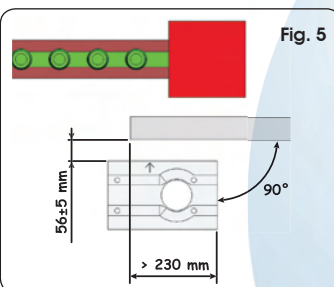
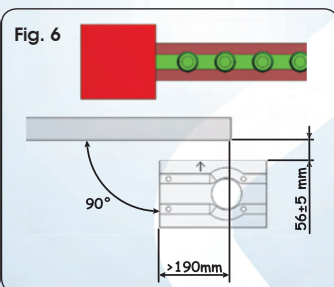

Fig. 5
Fig. 6
2. The foundation plate must be located as shown in Fig. 5 (right closing) or Fig. 6 (left closing) to ensure correct meshing between rack and pinion.